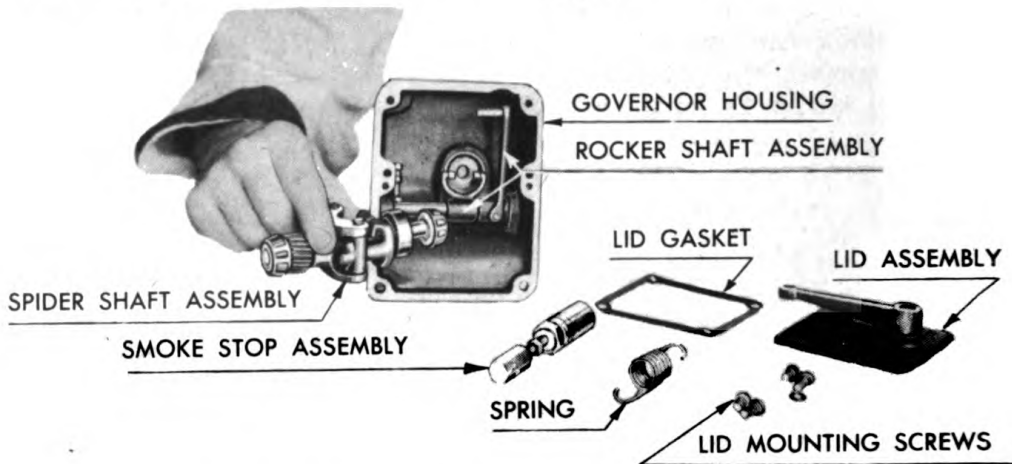

Figure 213. Removing Spider Shaft Assembly.
2. Remove the weight shaft and balance assembly, as shown in Figure 213, after having removed the governor drive gear. **NOTE:** The cone for the end plate bearing is pressed in and cannot be removed.